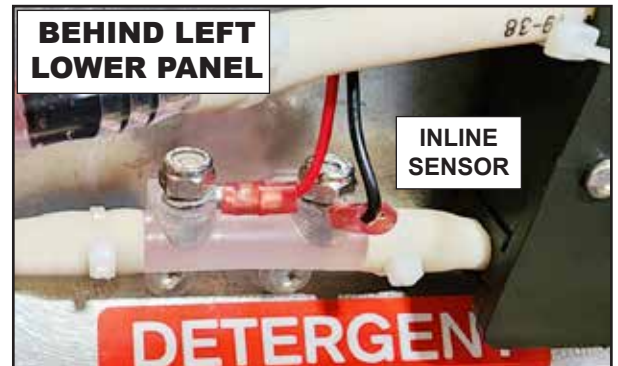

Fig.10a - Inline sensor (left-side)
- Inline sensor is located on the left-side of machine behind the lower front panel, Fig 10a.